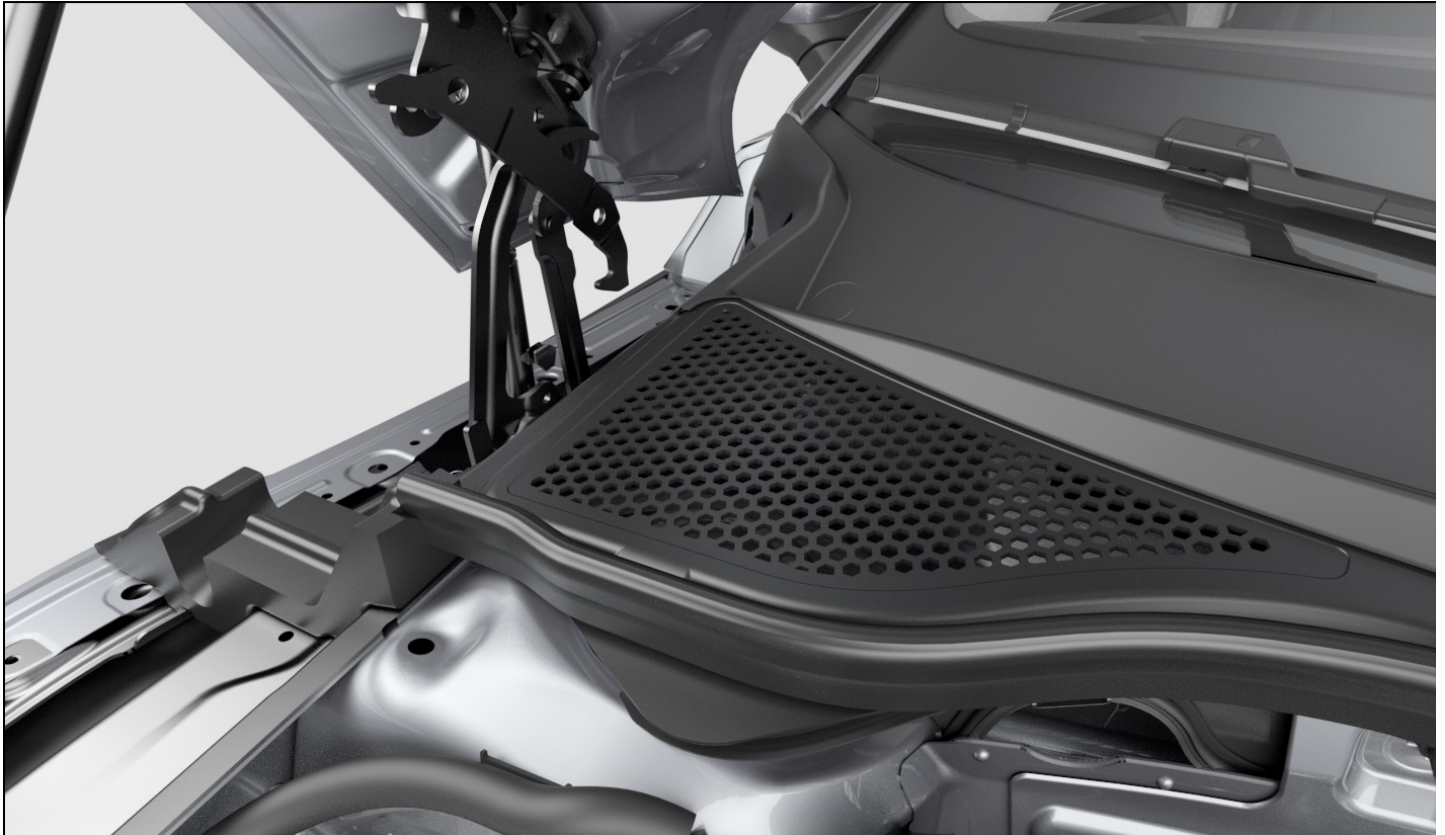

Fig. 200 Between the engine compartment and windshield: plenum chamber (general example).
- Remove leaves or other loose objects with a vacuum or by hand *fig. 200*, ⇒ ⚠.